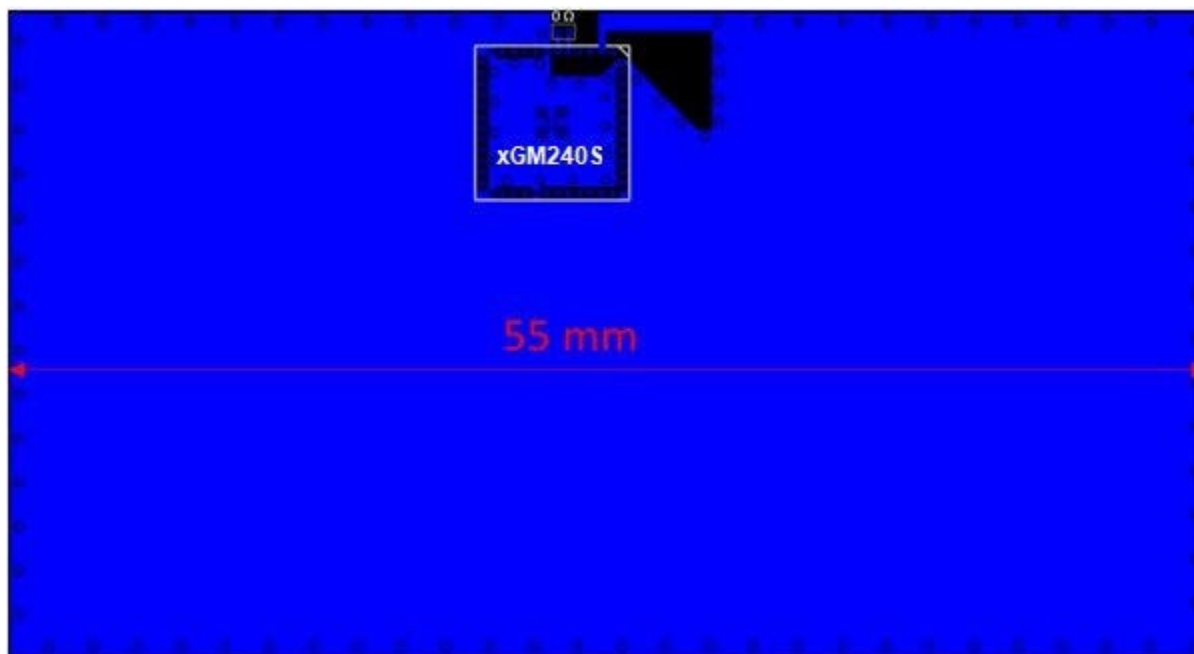

Figure 14: Illustration of Recommended Board Width
- To achieve optimal performance, a GND plane width of 55 mm is recommended as seen on Figure 14: Illustration of Recommended Board Width.